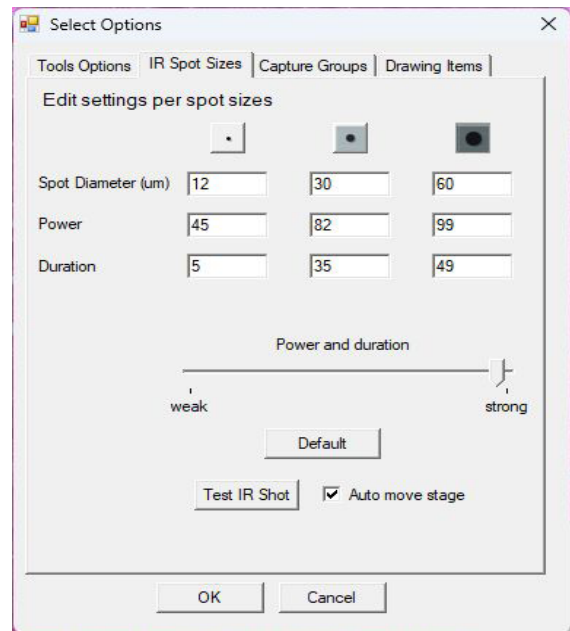

Figure 23
3. Click the **IR Spot Sizes** tab, then select the size of spot (small, medium, or large) under Edit settings per spot sizes for which you want to set the parameters (see Figure 23).